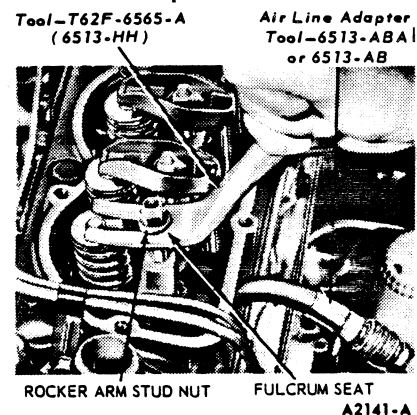
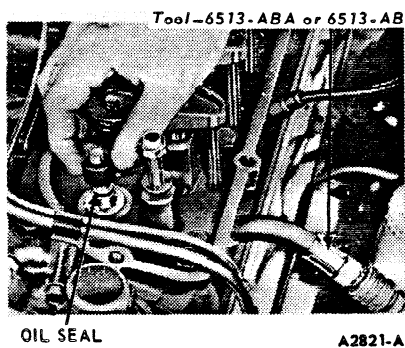

FIG. 33 Compressing Valve Spring — In Chassis
FIG. 34 Removing or Installing Valve Stem Seal
5. Install an air line adapter in the spark plug hole (Figure 33) and connect the air line.
- Remove the applicable valve rocker arm stud nut, fulcrum seat, valve rocker arm and push rod. Install the stud nut and position the compressor tool as shown in Figure 33. Compress the valve spring and remove the retainer locks, spring retainer and valve spring. Remove and discard the valve stem seal (Figure 34).
- Oil the valve stem with heavy SE engine oil and install a new valve stem seal (Figure 34). Place the spring in position over the valve. Be sure the closed coil end is next to the cylinder head. Install the valve spring retainer. Compress the valve spring and install the valve spring retainer locks. Remove the compressor tool and stud nut.